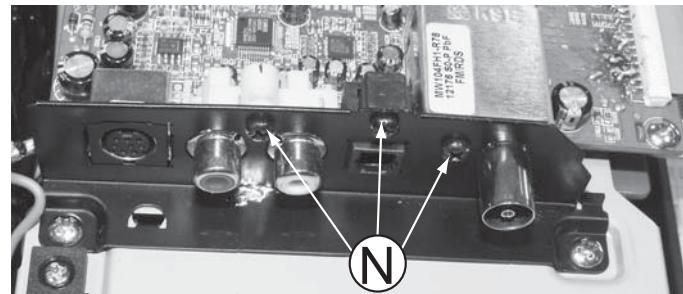

Figure 14
- 1) Loosen 3 screws "N" as shown in figure 14.